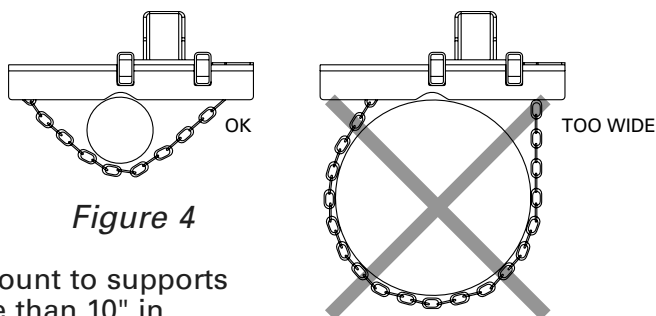

Figure 4
**⚠ WARNING** When using the Model #2280 floor mount or Model #2281 chain mount, ALWAYS ensure the cable puller is properly pinned onto the floor/chain mount and that the floor/chain mount is properly secured before operating. ALWAYS attach the Model #2281 chain mount to supports that are at least 2" and not more than 10" in diameter. (See Figure 4). NEVER attach to PVC conduit of any size.